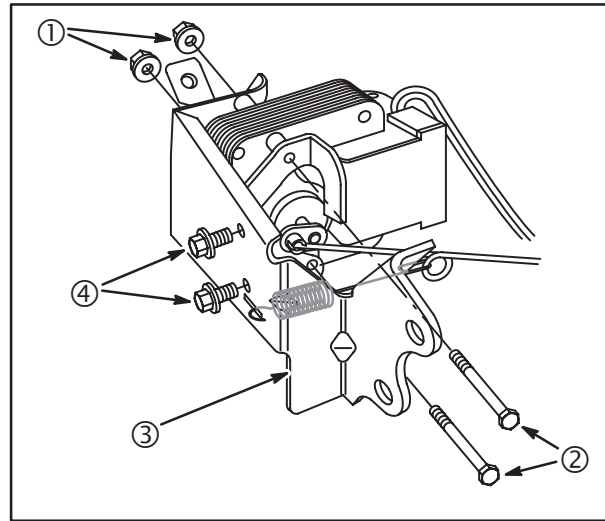

Fig. 57
1. Assemble actuator to governor control bracket (3), **Fig. 57**. Torque screws (4) and nuts (1) to **30 in. lbs. (3 Nm)**.